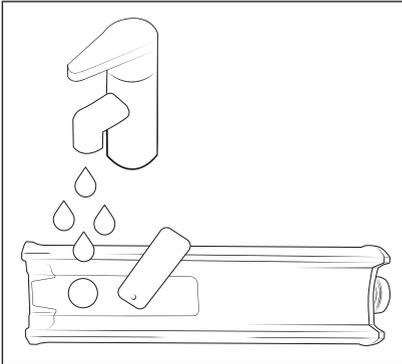

Fig. 7
- 4) Fill the fresh water tank **6** with tap water or distilled water (see Fig. 7). Do not fill the fresh water tank **6** beyond the **MAX** mark. Pour out any excess water through the filler opening.